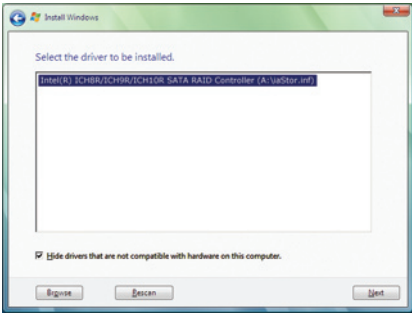

Figure 6
- ① Only for GA-EP45-UD3P.
- ② Only for GA-EP45-UD3R.
When a screen as shown in Figure 6 appears, select **Intel(R) ICH8R/ICH9R/ICH10R/DO SATA RAID Controller** and click **Next**.